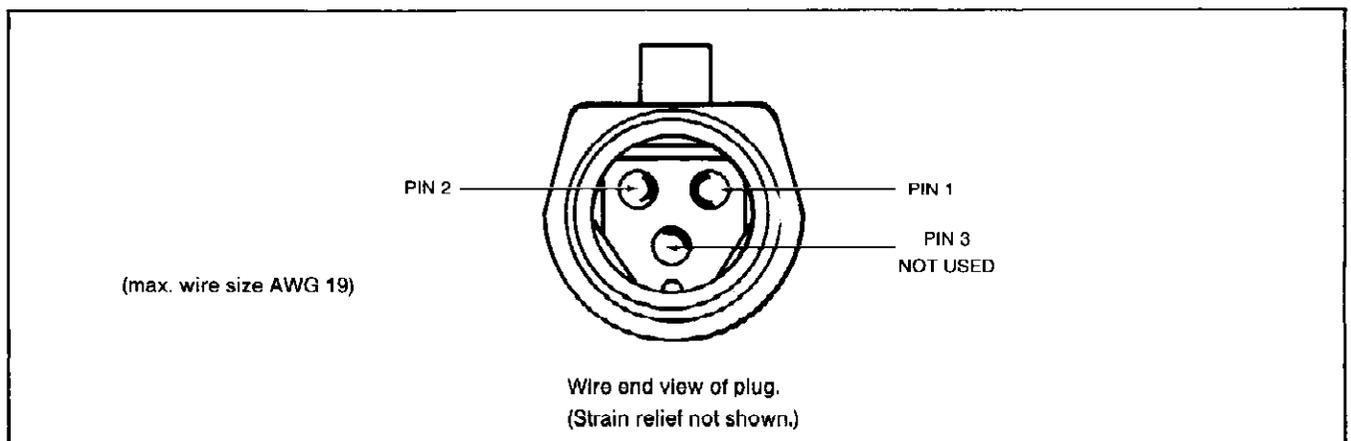

Figure 2-3. Connector Plug for External Input Connector
2-15a. A connector plug (P/N 720847) for the external power input connector (Figure 2-3) is provided with each 732A Battery Module. To wire the plug, use the following procedure:
3. Solder a wire to each contact using AWG 19- to 22-gauge wire or 2-conductor cable with an outside diameter smaller than .216 inches (see Figure 2-3).